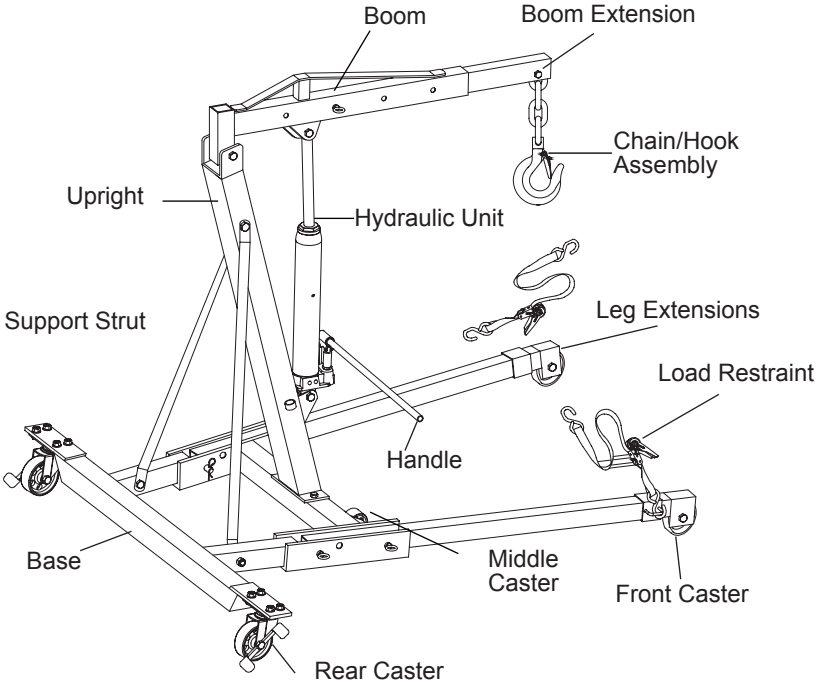

Fig. 1 - Engine Crane Nomenclature
**BEFORE USE** (refer to Fig.1 and Replacement Parts Illustration on Page 6 for location of components)
- 2. Verify that the product and the application are compatible, if in doubt call Pro-Lift Customer Support @ (888)332-6419.